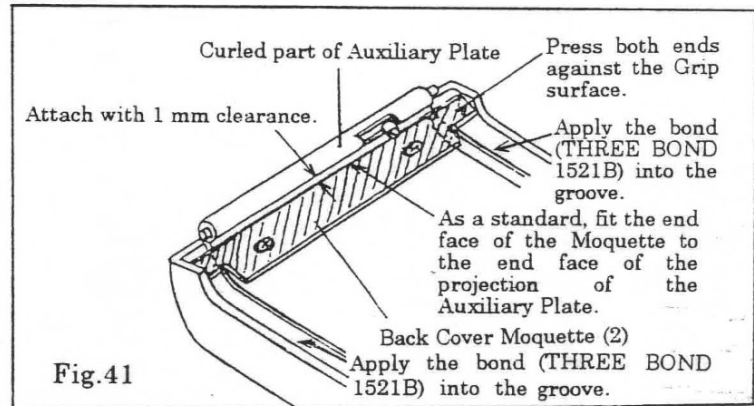

Fig.41
- e) Stick the Back Cover Moquette (2) (1AS17210) in a manner as shown in Fig. 41.
- f) Apply the bond (THREE BOND 1521B) into the groove in the Back Cover. Immediately after applying the bond, attach the Back Cover Moquette (7) (1AS17700) and Back Cover Moquette (6) (1AS17600), starting at A end of the Back Cover. Ensure that the other ends of the Back Cover Moquette (7) and Back Cover Moquette (6) are in contact with the Back Cover Moquette (2).